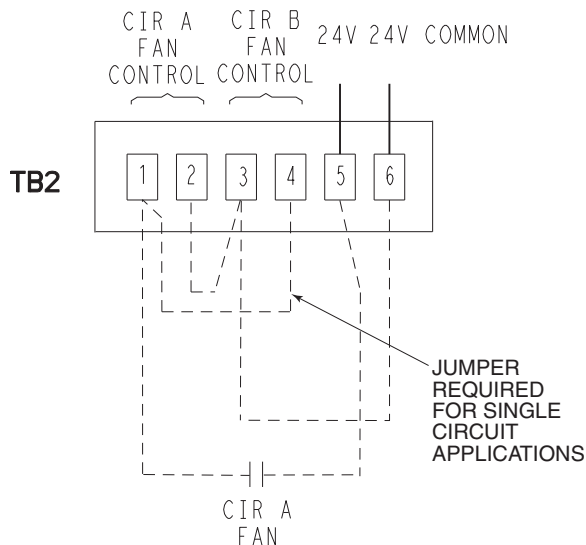

Fig. 31 — Single Circuit 09RC050-230 with Externally 24V Power
- For single unit applications a jumper should be installed between TB2 terminals 1 and 4. See Fig. 31.